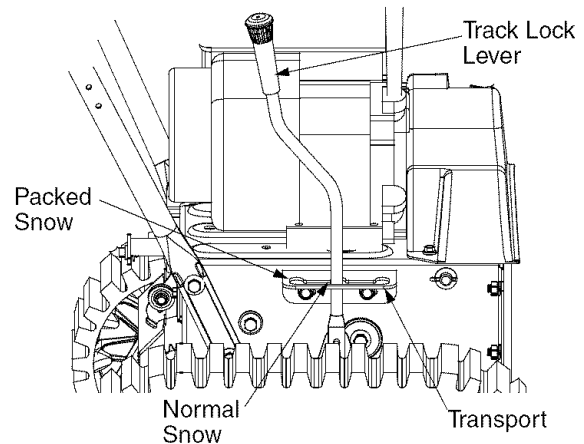

Figure 11
- Move the shift lever all the way forward to the sixth (6) position.
- Move the weight transfer lever to the transport position (shown in Figure 11) and the shift lever all the way forward to sixth (6) position.
The track lock lever is located on the right side of the snow thrower and is used to select the position of the auger housing and the method of track operation. Move the lever to the right, then forward or backward to one of three positions described below. See Figure 11.